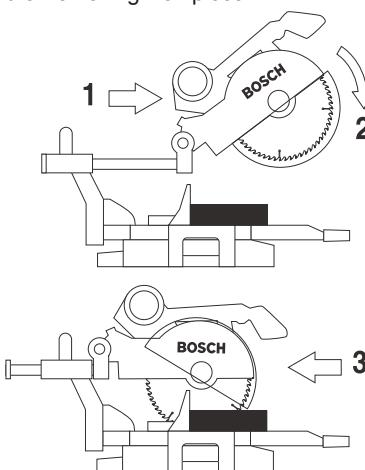

Figure 31. Slide Cut
- Grasp the switch handle and pull the head assembly away from the fence, until the blade clears the workpiece or to its maximum extension if blade cannot clear the workpiece (Figure 31).